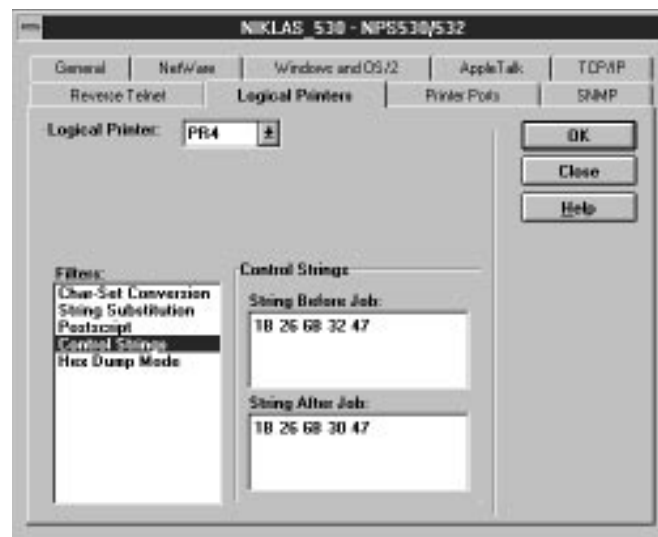

Figure 7-8 Using AXIS NetPilot to enter Control Strings
Figure 7-8 shows how NetPilot is used to enter the control strings given in Example 4 above. In this case logical printer number 4 is being used - other logical printers can be selected using the drop down list at the top of the property page.
*Example 1:* To replace the UNIX New Line (hex 0A) with an ASCII NewLine (hex 0D 0A) for logical printer PR1, edit the following entry in your *config* file (or use the NetPilot logical printer property page, see Figure 7-8):